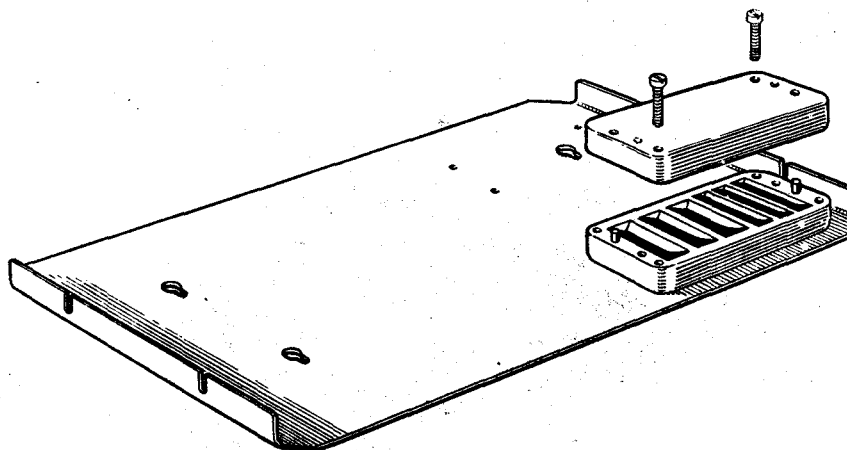

FIG. 19
- (1) A Case spare parts 4" x 1.5/8" x 13/16", as illustrated in fig.19, is secured to the inside of each power supply unit panel cover.
- (2) The case should contain three spare indicator lamps (Lamps filament vac MESC clear 6V. 0.35W), and three spare fuses of the correct rating for the supply unit to which the spares case is attached. These are Fuses cartridge No.1, 1-amp for the AC unit and Fuses cartridge 7-amp for the DC unit.